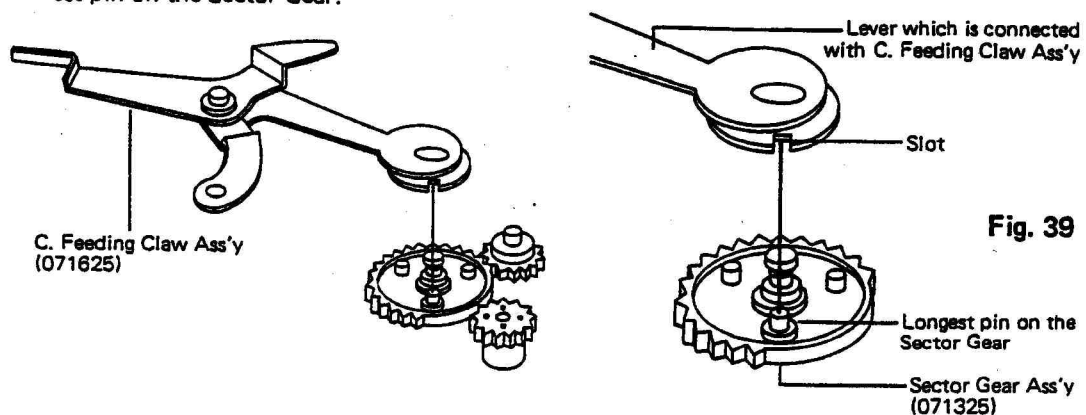

Fig. 39
- (1) When mounting the Winding Base Plate Ass'y, the Charge Lever (1) (071612) should engage from the front, the pin of the Stopper Claw Ass'y (071331) should engage into the slot of T-SW (141060) as shown in (fig. 39).
- (2) The slot of the lever which is connected with the C. Feeding Claw Ass'y engages with the longest pin on the Sector Gear.